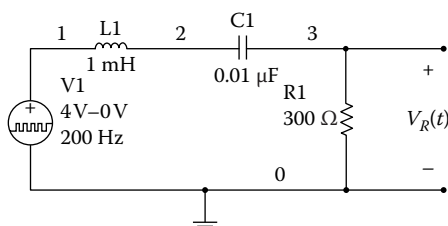

FIGURE P3.5
Problem 3.5 For the RLC circuit shown in Figure P3.5, the input square wave has a frequency of 200 Hz and the peak-to-peak value of the square wave is 0 to 4 V with offset voltage of 2 V. Use the Analog Discovery board to obtain the voltage across the resistor. (1) Determine the damping factor and damped frequency. (2) Compare the measured damping factor and damped frequency with the theoretically-calculated values. (3) What might be the causes of errors between the calculated and the measured values?